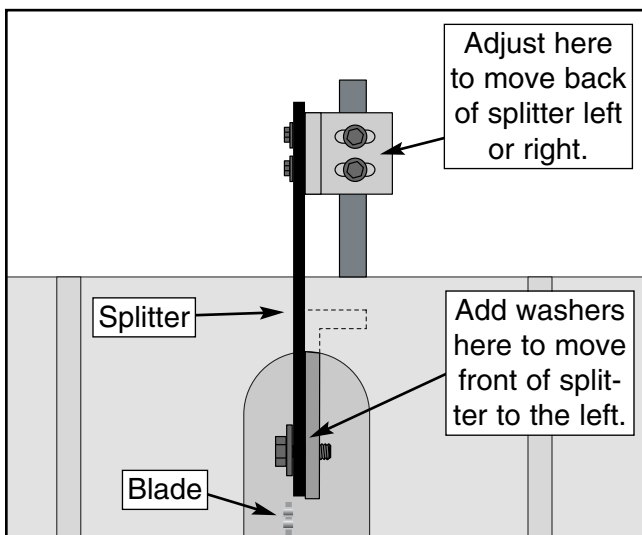

Figure 40. Improper splitter/blade alignment.
- If the blade guard/splitter is to the right of the blade as shown in **Figure 40**, add washers between the splitter and front mounting bracket and adjust the rear splitter support as shown in **Figure 40**.